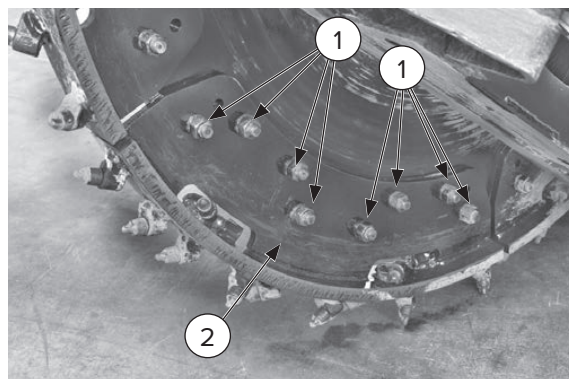

Figure 24
2. Loosen and remove the eight (8) nuts [Figure 24, Item 1], washers, and fixing bolts of the segment. Remove the tooth segment. Remove the segments that need replaced [Item 2].